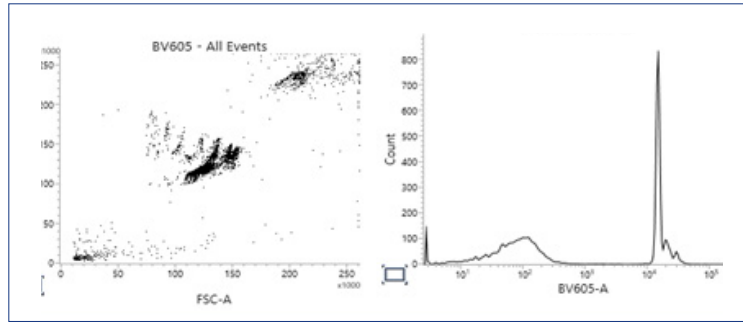

Figure 4: An example of BD® CompBeads Particles as a single-color compensation control run on the BD FACSLyric™ Flow Cytometer.
B. Antibody capture beads/BD® CompBeads Particles (Figure 4)